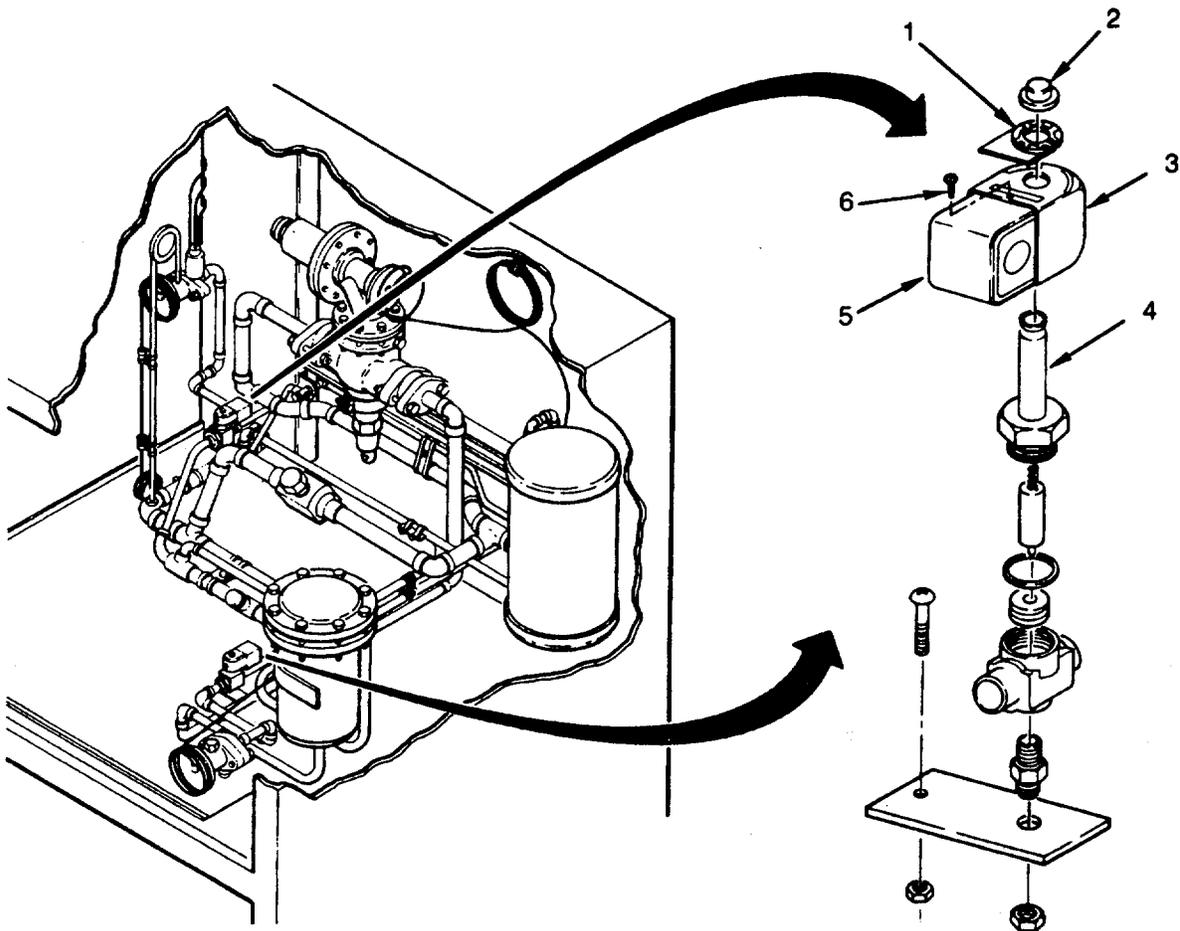

Figure 4-88. Solenoid Valve (L1 and L2) Coil Removal
1. Check that leads are properly connected (see Figure 4-88 and Figure FO-3).